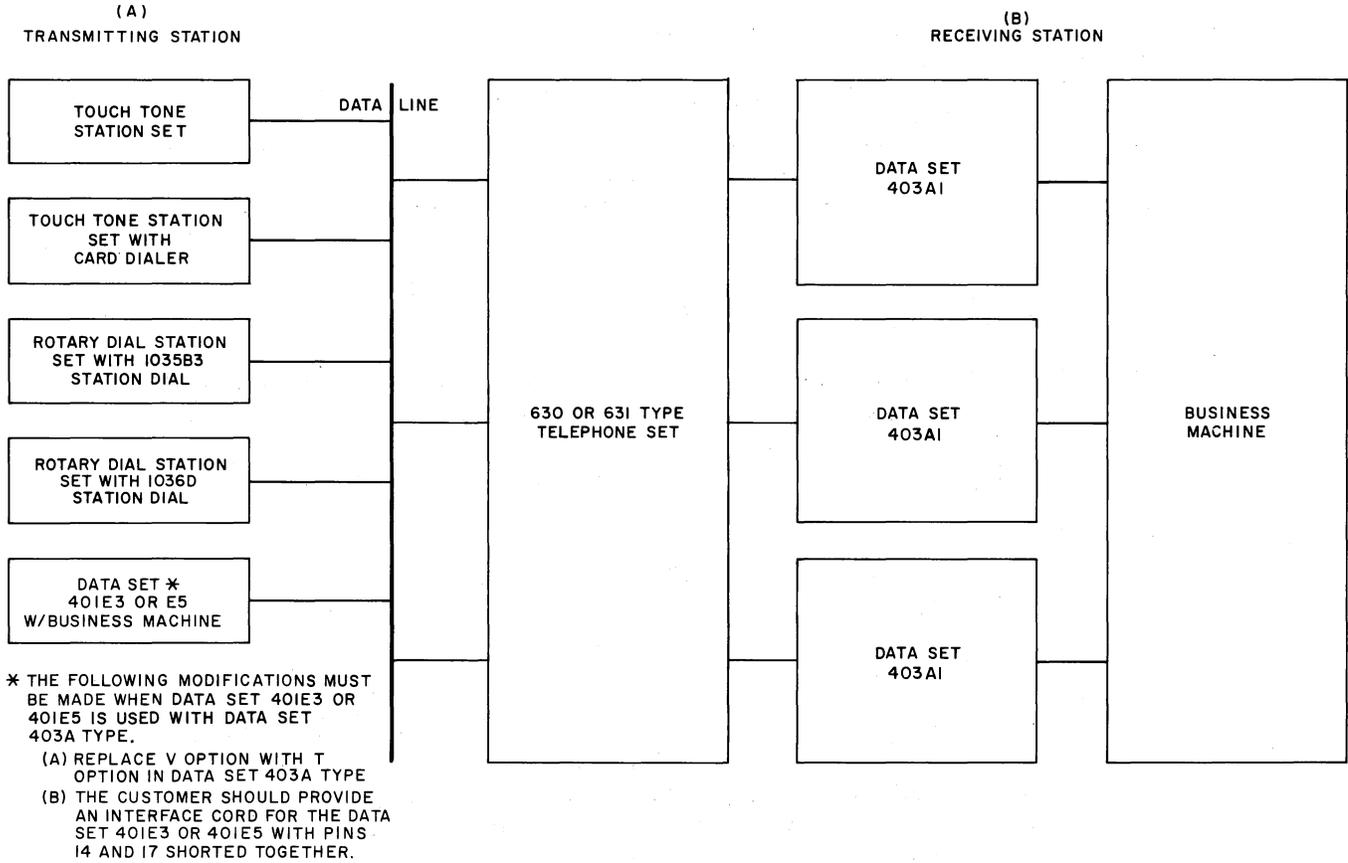

Fig. 9—Typical Operation of Data Set 403A1, Multiple Installation
3.06 Data set operation for a typical multiple data set installation is described in Table E using Fig. 9.